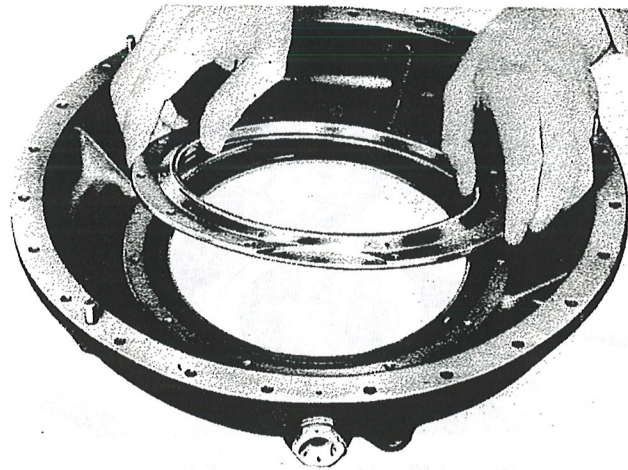

Figure 147—Installing Cover Bearing
(11) Install the regulator cover bearing. (See figure 147.) Tighten the cover bearing mounting screws and safety.